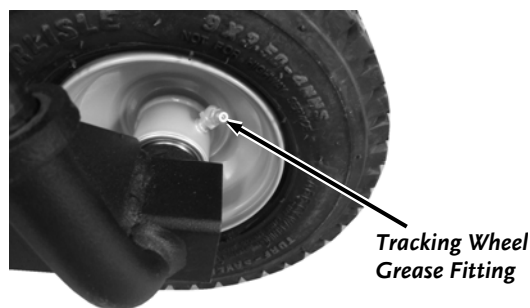

Figure 29
1. Apply general-purpose lithium grease to the Tracking Wheel Grease Fitting using a grease gun (**Figure 29**).